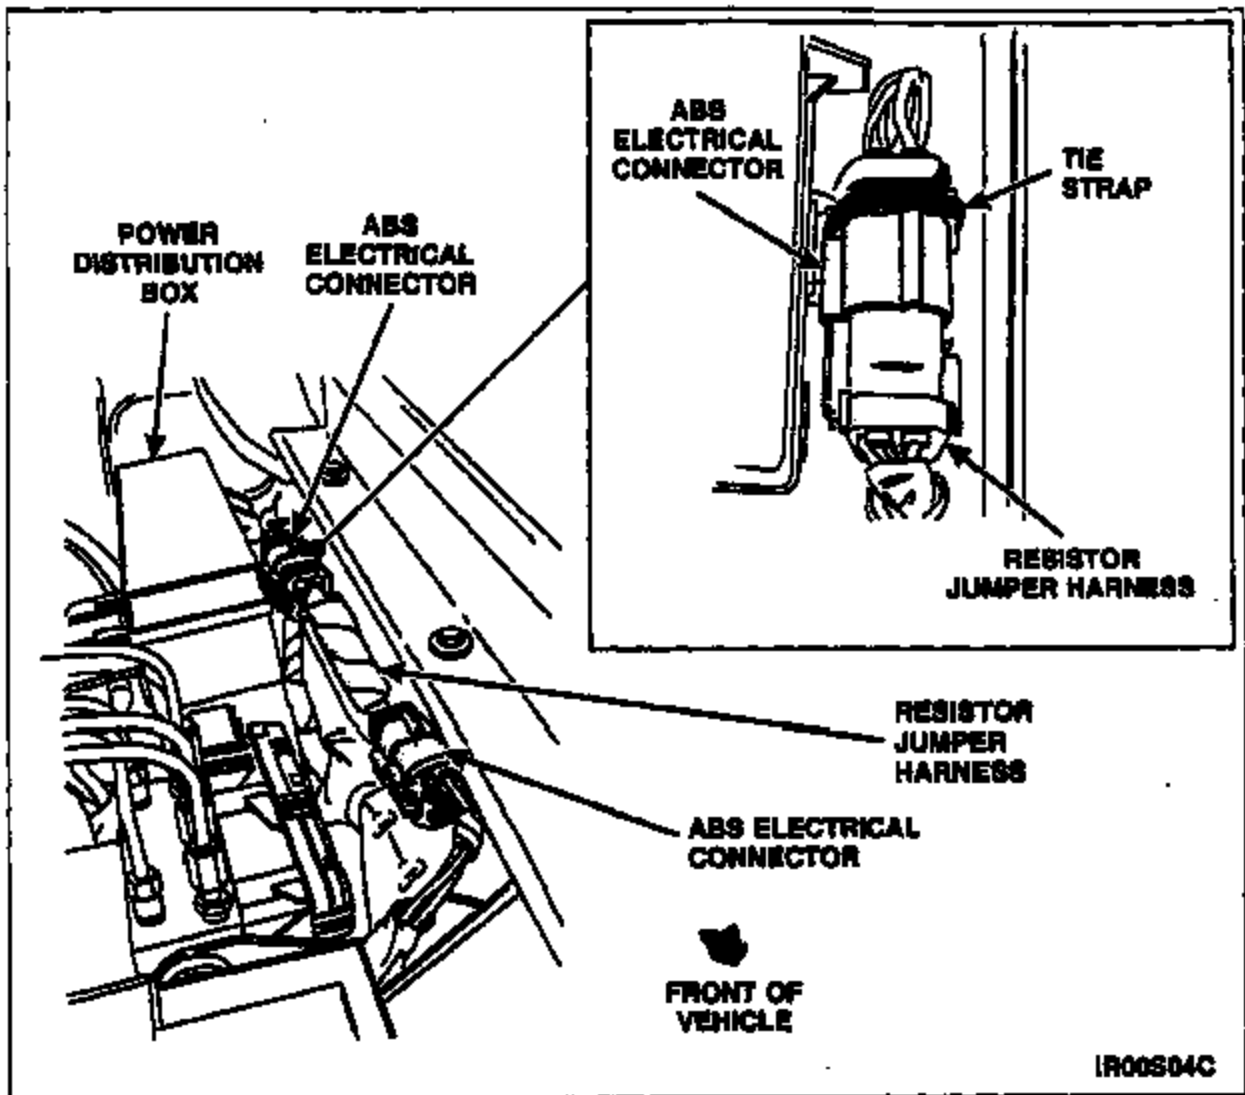

FIGURE 3
4. Connect the resistor jumper harness to the ABS electrical connector and fasten the ABS connector with the tie strap to the power distribution box. See Figure 3.